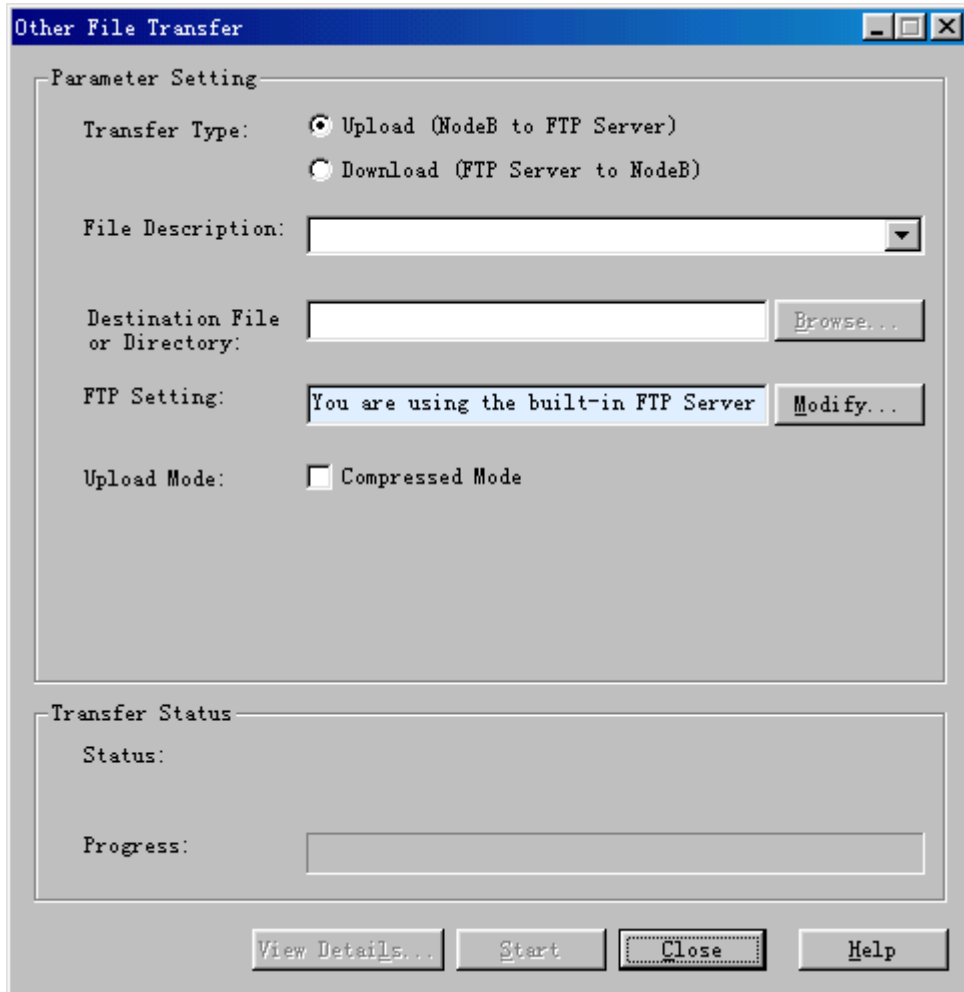

Figure 6-1 Other File Transfer dialog box
- 1) Choose **Maintenance Navigator** -> **Software Management**. Then double-click the **Other File Transfer** subnode. The **Other File Transfer** dialog box opens up, as shown in Figure 6-1.
The **Other File Transfer** dialog box opens up, as shown in Figure 6-1.